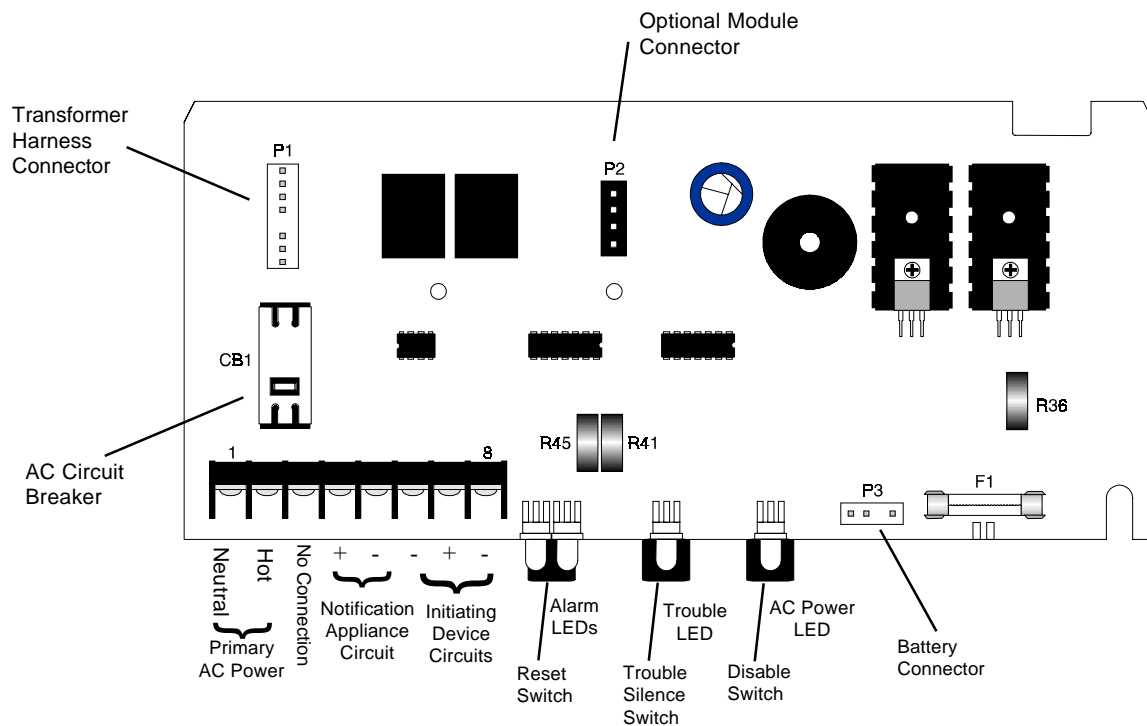

Figure 3.1: Component and Terminal Locations
- Refer to Figure 3.1 for location information.